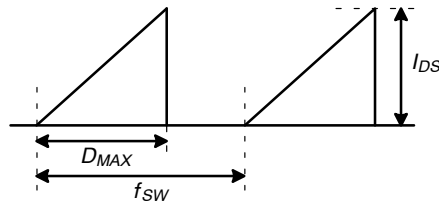

Figure 4. Repetitive Peak Switching Current
6. Repetitive peak switching current when the inductive load is assumed: Limited by maximum duty (D_{MAX} = 0.75) and junction temperature (see Figure 4).